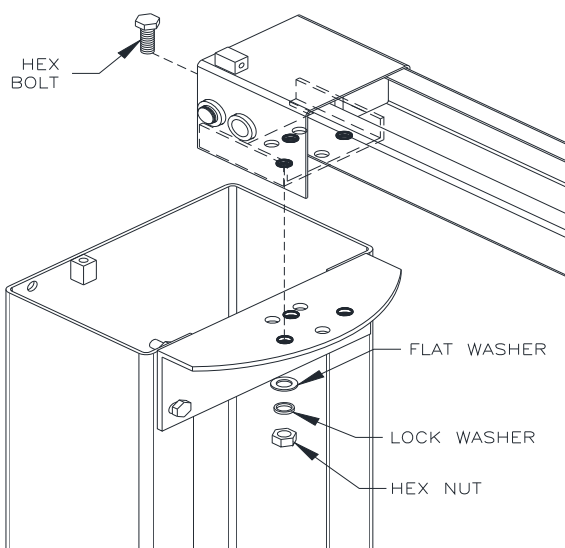

Fig 9 – Symmetric Overhead Mounting
- 18) Place the Overhead on top of the mounting brackets on Column Extensions and bolt together using (3 sets) M12 x 25 Hex bolt, nut, flat washer, and lock washer. Hand-tighten bolts to allow for column adjustment if needed. Use the holes highlighted below in **Fig 9** below.